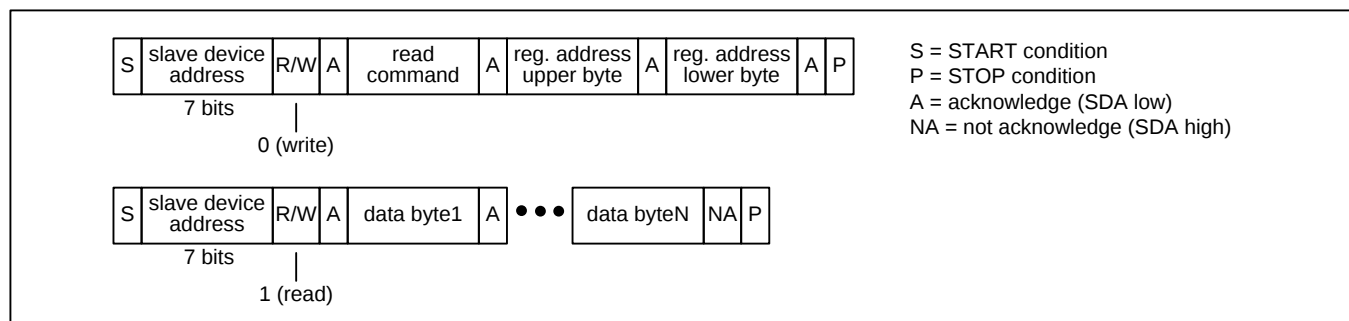
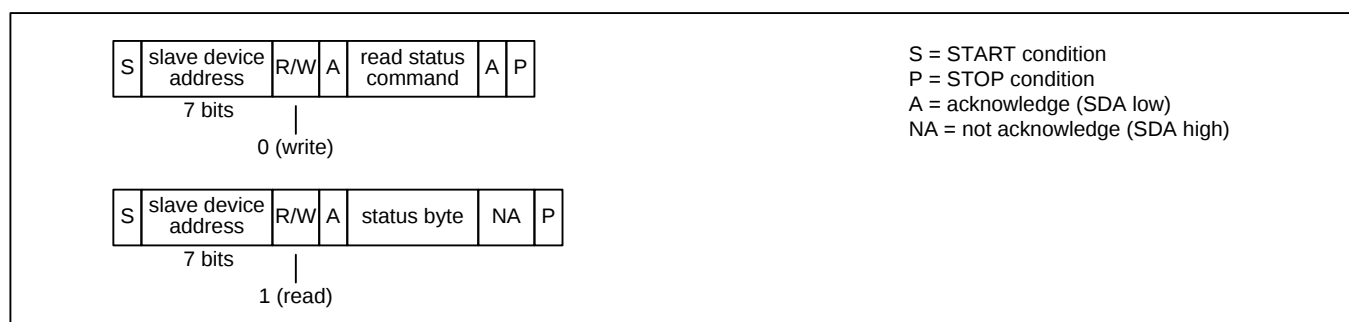

Figure 10 – I²C Read Transaction Functional Timing
Figure 13 – I²C EEPROM Read Status Transaction Functional Timing
Read Transactions. The device registers are accessible when EESSEL=0. The internal EEPROM memory is accessible when EESSEL=1. The bus master first does an I²C write to the device. In this transaction three bytes are written: the SPI Read command (see Table 3), the upper byte of the register address, and the lower byte of the register address. The bus master then does an I²C read. During each acknowledge (A) bit the device fetches data from the read address and then increments the read address. The device then transmits the data to the bus master during the next 8 SCL cycles. The bus master terminates the read with a not-acknowledge (NA) followed by a STOP condition (P). See Figure 10. Note: If the I²C write is separated from the I²C read by other I²C transactions then the device only outputs the data value from the first address and repeats that same data value after each acknowledge (A) generated by the bus master.
EEPROM Read Status. The bus master first does an I²C write to transmit the SPI Read Status command (see Table 3) to the device. The bus master then does an I²C read to get the status byte. In this byte, the least significant bit is set to 1 if the transfer is still in progress and 0 if the transfer has completed. See Figure 13.
Note: In Figure 10 through Figure 13, a STOP condition (P) immediately followed by a START condition (S) can be replaced by a repeated START condition (Sr) as described in the I²C specification.